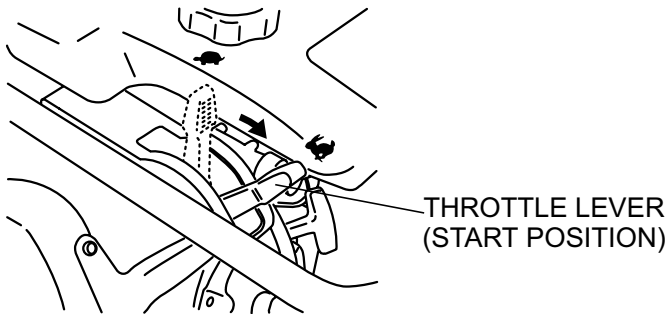

Figure 10. Throttle Lever (Start Position)
1. To start the rammer tamping action, move the throttle lever (Figure 10) **quickly** from **IDLE** to the **START** (👉) position. **DO NOT** move the throttle lever slowly as this may cause damage to the clutch or spring.